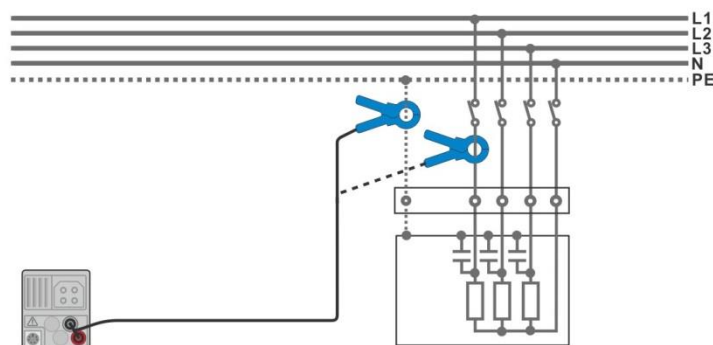

Figure 7.65: Leakage and load current measurements
- › Connect the clamp to the object under test, see **Figure 7.65**.